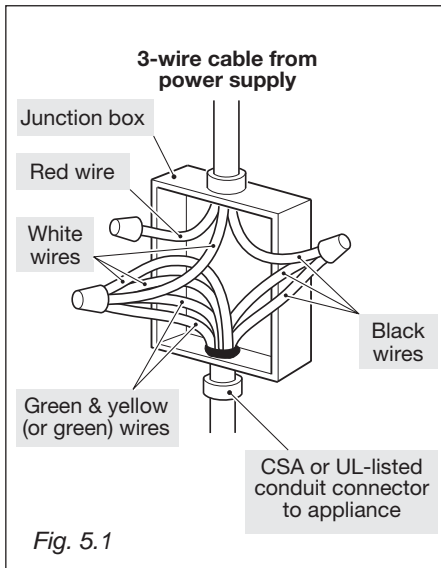

Fig. 5.1
7. Connect the crimped white cooktop cable wires and the crimped green & yellow (or green) cooktop cable wires to the neutral (white) wire in the junction box (Fig. 5.1).
7. Connect the crimped white cooktop cable wires to the neutral (white) wire in the junction box (Fig. 5.1).